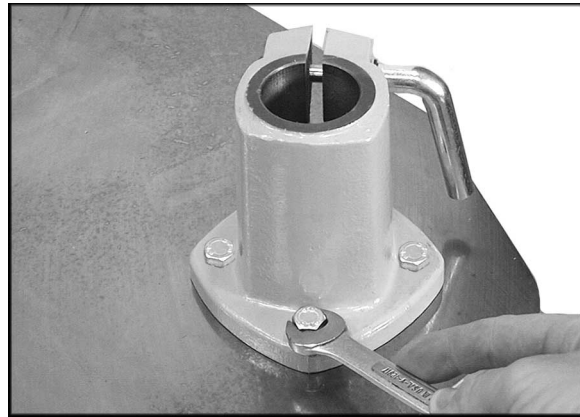

Figure 2
7. Insert four M10 screws (not provided) through the holes of the base and into the holes on the mounting surface. See Figure 2. Tighten screws securely.